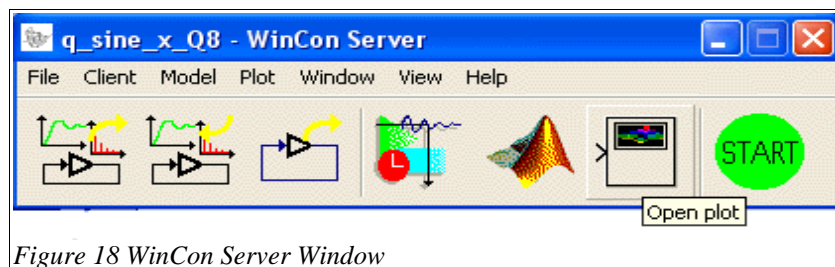

Figure 18 WinCon Server Window
- Step 1. Open the list of available variables to be plotted by clicking on the *Open Plot* button in the *WinCon Server* window shown in Figure 18.